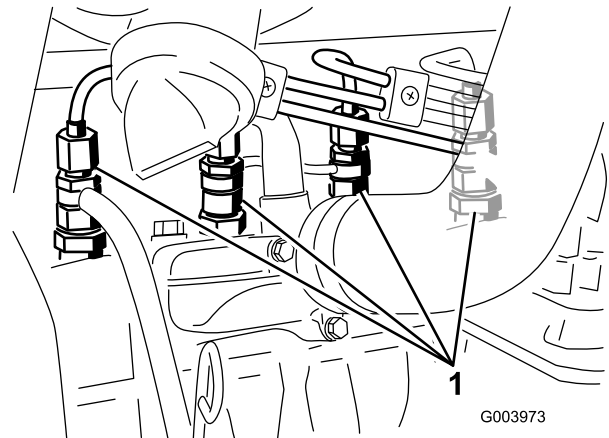

Figure 49
1. Loosen the pipe connection to the No. 1 nozzle and holder assembly (Figure 49).